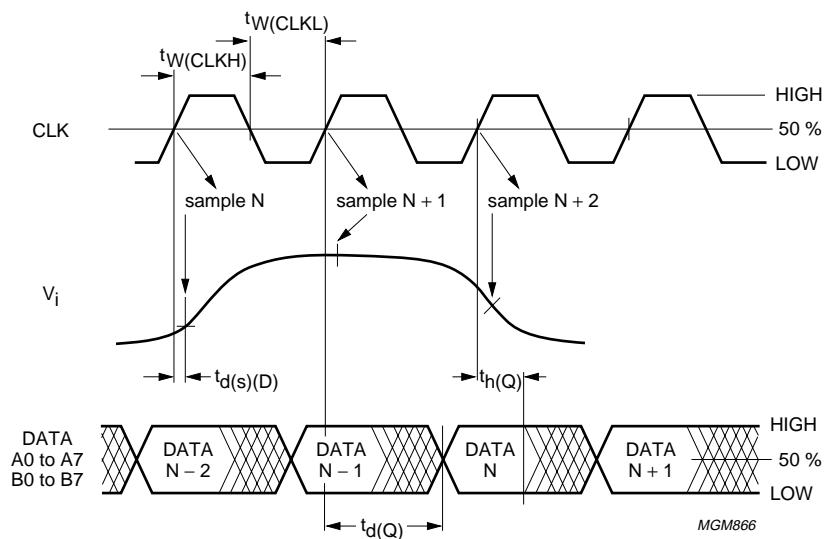

Fig.17 Timing diagram for the ADC.
- When using the Track-and-Hold mode by setting $\overline{\text{TE}}$ LOW, the CLK input must never be HIGH for more than $t_{W(CLKH)}(\text{max})$ even at power up to guarantee that the Track-and-Hold will start well. If CLK is set HIGH for more than $t_{W(CLKH)}(\text{max})$ then, to correctly restart the Track-and-Hold, either $\overline{\text{TE}}$ has to be set LOW or CLK has to be set LOW for at least 50 ns. By using the application diagram clock input interface, see Fig. 17, the clock is guaranteed to respect the $t_{W(CLKH)}(\text{max})$ timing in all conditions, i.e. at start-up or if the clock is temporarily lost.